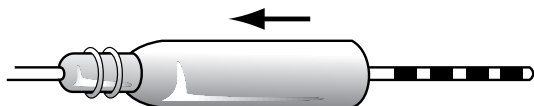

Figure 23. Push connector boot over lead.
- Push the connector boot over the exposed end of the lead (Figure 23).